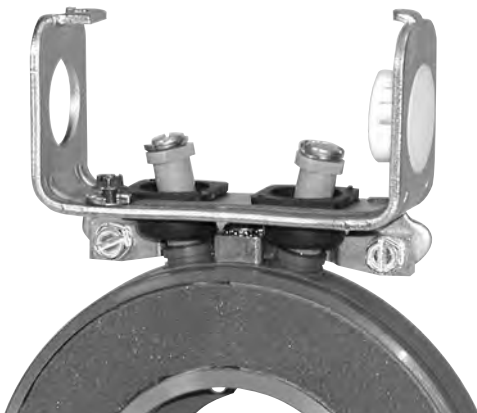

Figure 3
Mount conduit box to bracket. The conduit box flange must be toward flange side or the magnet (rear of bracket). Thread terminal spacers into field/magnet before fastening conduit box to bracket. Do not over tighten, excessive torque will pull thread insert out of magnet/field. Secure conduit box to bracket with two No. 10-32 hex washer head screws (4). (See Figure 3)